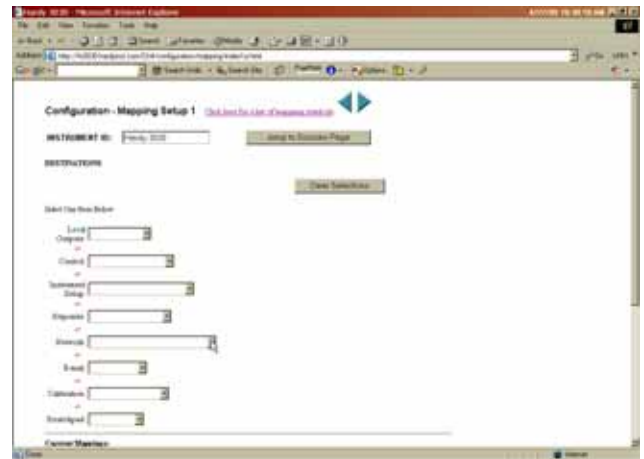

FIG. 262: MAPPING SETUP PAGE 1
Step 3. Click on “Mapping Setup”. “The Mapping Setup 1” Page appears. (See Fig. 262)